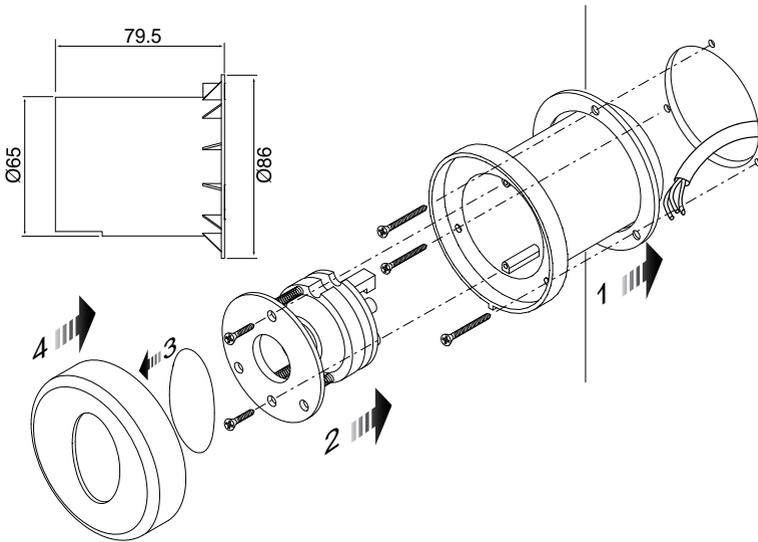

Fig. 3
- If there is no pillar or wall for the photocells to be secured to, request the appropriate metal posts. The posts can be directly secured onto a concrete base by means of three screw anchors (fig. 3).